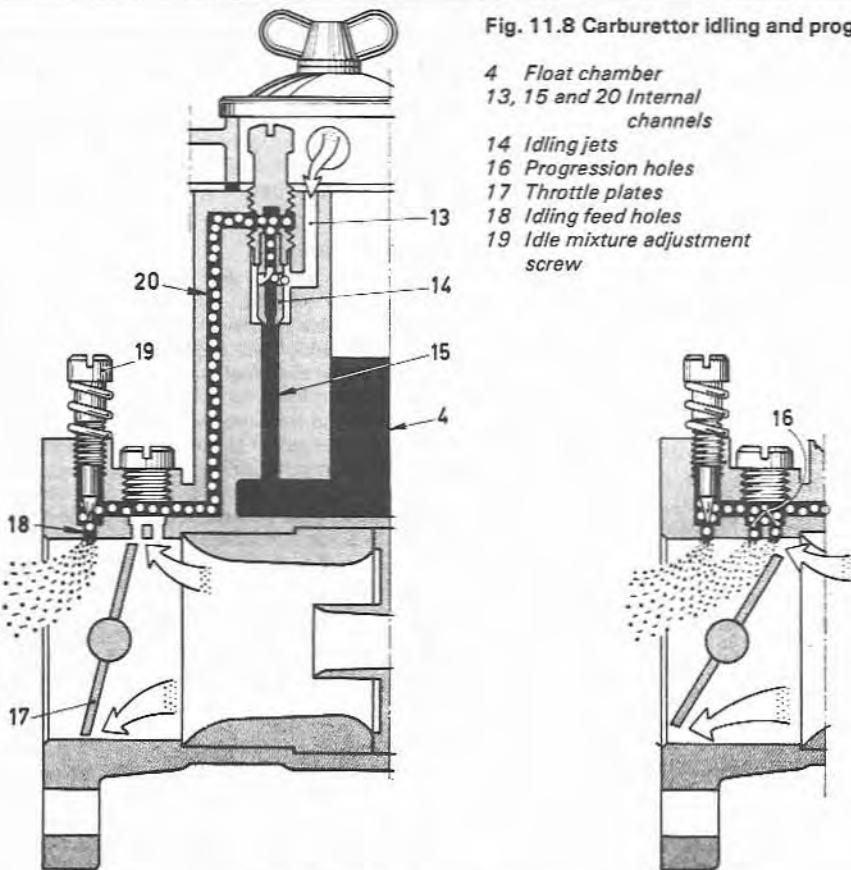

Fig. 11.8 Carburettor idling and progression phase (Sec 3)
Refer to Fig. 11.8 and note that when the engine is idling with the throttle valves (17) closed, fuel is drawn from the float chamber (4), through the channels (15) to the bottom of the idling jets (14). On passing through the idling jets, air is introduced through the channels (13) and the holes in the sides of the idling jets and the fuel then becomes emulsified.